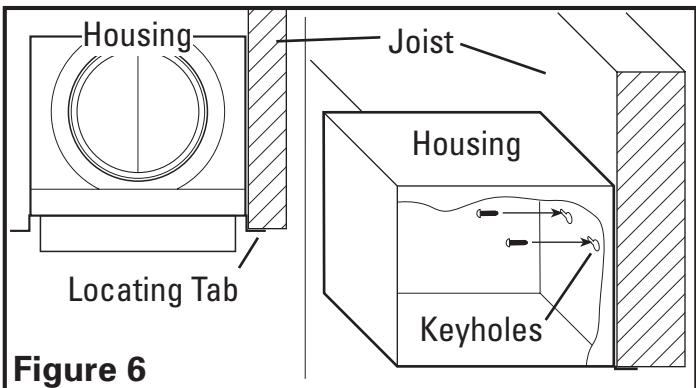
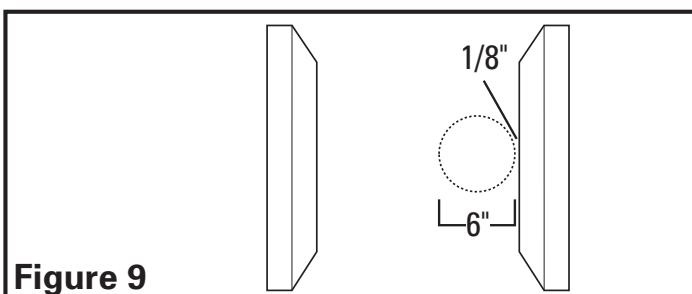
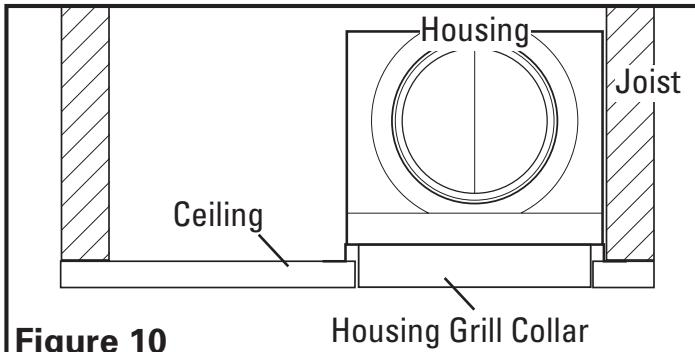

Figure 6
Figure 9
Figure 10
2b. Using the locator tabs on the grill housing, line up housing so that it will be flush with the finished ceiling. Position the housing so that the tabs rest flat against the joist and secure with the included 1" screws through the two keyhole slots (**Figure 6**).
- 2b. Determine where along the joist the grill will be mounted and starting 1/8" away from the joist, cut a 6" round opening, being careful not to cut or damage any electrical or other hidden utilities (**Figure 9**). Position the housing grill collar in the previously cut hole so that it is flush with the finished ceiling (**Figure 10**). Secure the grill housing to the joist using the provided 1" screws through the two keyhole slots (**Figure 6**).